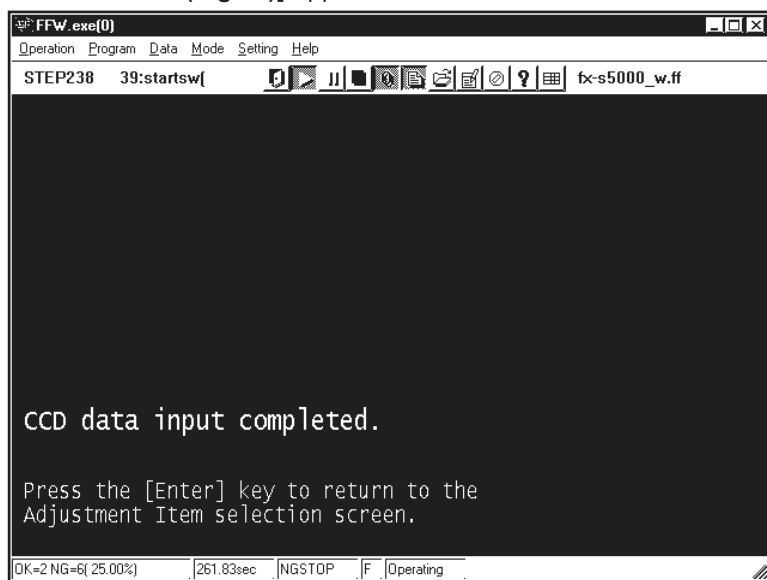

Fig.12
---> When the adjustment data is written satisfactorily to the Flash ROM the **[CCD Data Input Complete Screen (Fig.12)]** appears.
Press the Enter key while in the [CCD Data input Complete Screen (Fig.12)].